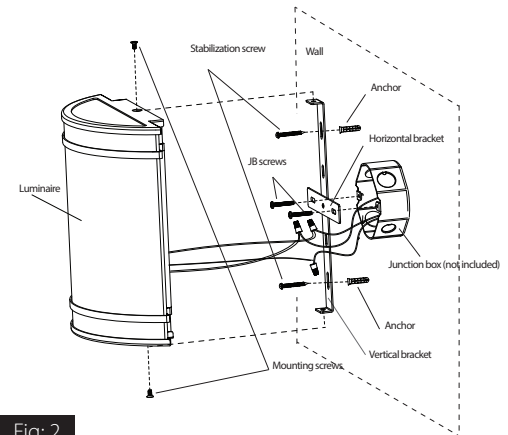
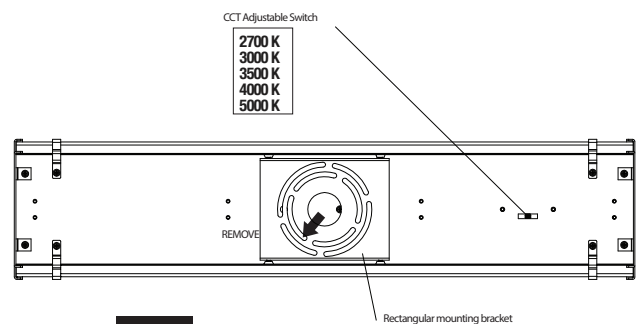
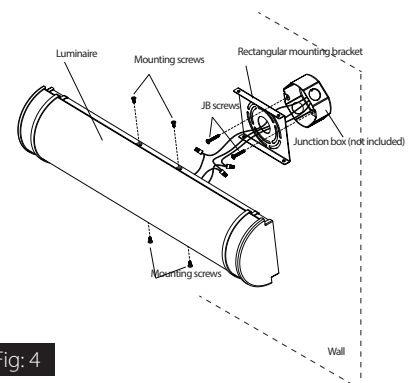

Fig: 2
Fig: 3
Fig: 4
4. Orient the **vertical mounting bracket** so that the arms are facing away from the junction box. Pull the power supply wires out of the junction box (*Fig. 2*).
5. Use the two screws to attach the **horizontal mounting bracket** flush to the junction box (*Fig. 2*).
7. Position the luminaire over the junction box and fix it with the vertical bracket (*Fig. 4*). Adjust the luminaire by rotating it until it is straight. Remove the luminaire and fix the vertical bracket on the wall by using the stabilization screws and anchors.
8. Secure the luminaire on the **vertical bracket** by using the two screws (*Fig. 2*). NOTE: Do not screw too tight the extremities of luminaire.
2. Select the desired LED color temperature by using the switch situated on the back of the luminaire (*Fig. 3*).
3. Remove the rectangular mounting bracket from the luminaire by unscrewing the four screws. (*Fig. 3 and Fig. 4*).
4. Orient the vertical mounting bracket so that the arms are facing away from the junction box. Pull the power supply wires out of the junction box through the central hole of the **rectangular bracket** (*Fig. 2*).
5. Use the two screws to attach the **rectangular mounting bracket** flush to the junction box (*Fig. 4*).
7. Position the luminaire over the **rectangular mounting bracket**. Install the luminaire on the **rectangular mounting bracket** by using the four screws (*Fig. 4*).
ELECTRICAL WIRING (*Fig. 2 and Fig. 4*)